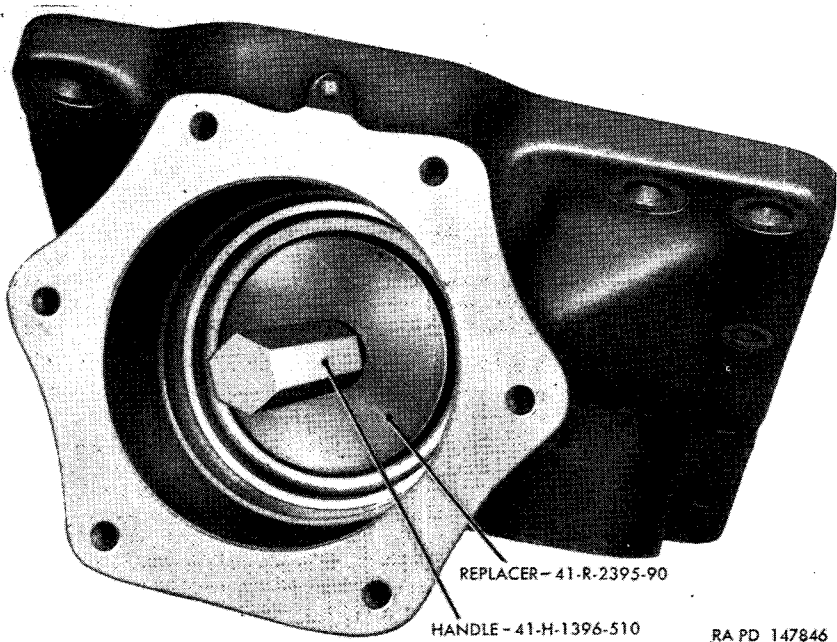

Figure 268. Installing road wheel arm spindle inner bearing oil seal in arm support.
- (3) *Assembly and installation.* Install torsion bar anchor in support and position anchor cover and cover gasket so anchor is held by dowels in cover in proper position to receive torsion bar. Secure cover with four bolts and lock washers. Install the wheel arm spindle inner bearing oil seal in the arm support with replacer 41-R-2395-90 for road wheel arm support and replacer 41-R-2391-425 for compensating idler arm support oil seals, and handle 41-H-1396-510 (fig. 268). Install the arm support and gasket on the bottom of the hull (fig. 256). Tighten all bolts to 150 lb-ft torque. Install the wheel arm (*d* through *f* above). Install torsion bars (par. 253). Install the wheels (*a* and *b* above).